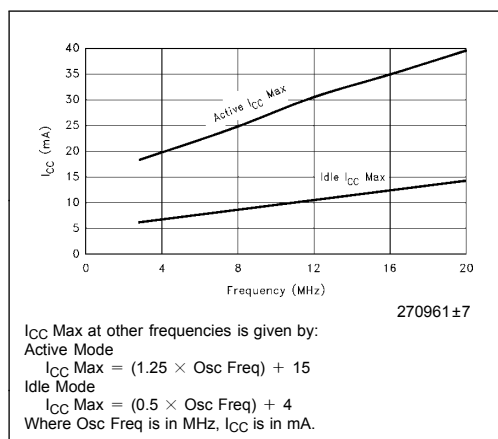

Figure 6. I_{CC} vs Frequency
3. See Figures 6±9 for test conditions. Minimum V_{CC} for Power Down is 2V.